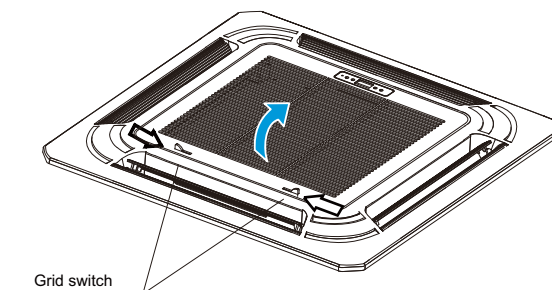

Figure 3.12
- Press the two grille locks inwards in the direction indicated by the arrows at the same time to lift it up (Figure 3.12).